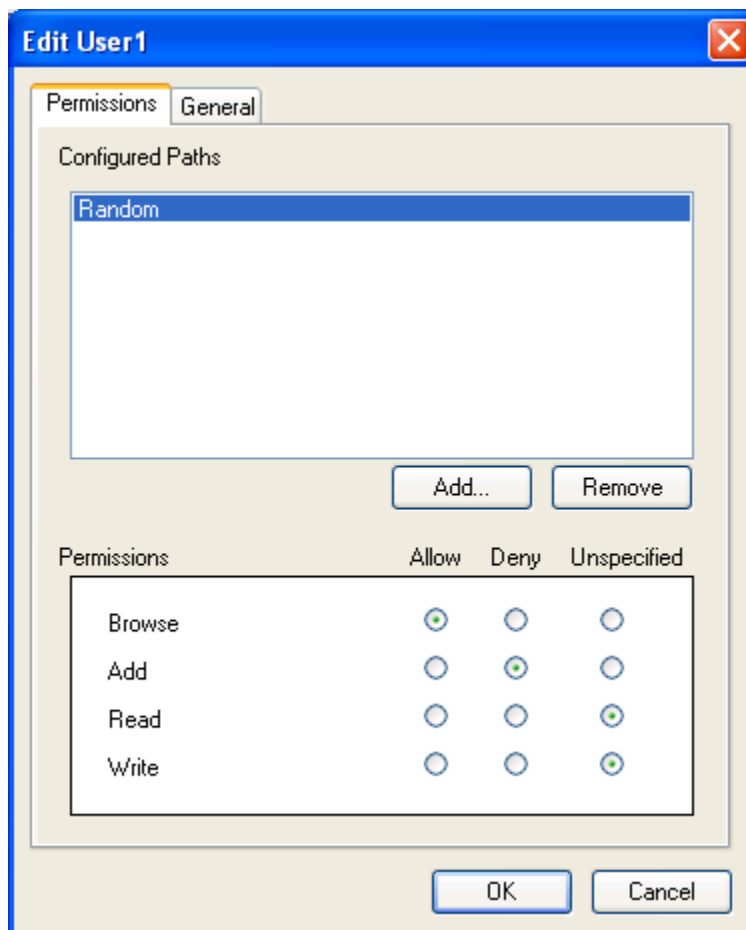

Figure 80 - Edit <Username>: Example
5. The selected path or item will be listed in the **Configured Paths** screen section of the **Edit User** window. Permissions can now be assigned, as in the example depicted in Figure 80.